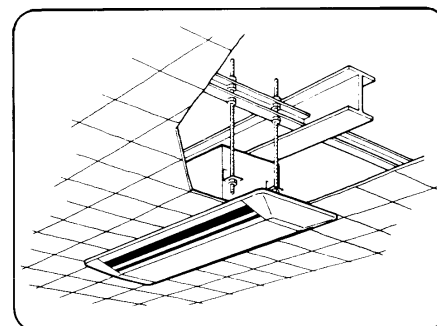

Fig. 7B
**NOTE** : If the ceiling pad is not strong enough to suspend the air conditioner or if it is difficult to use bolt anchors, secure the suspension bolts with the construction member. Refer to Fig.7B.